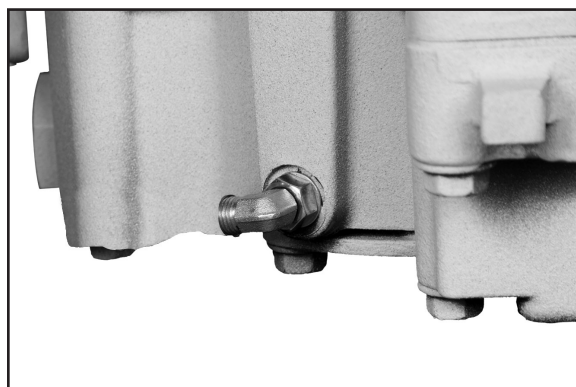

Figure 19 (Left side shown)
9. Remove the Transmission High Pressure port plug and securely install the 90° elbow fitting supplied with the PTO (**Fig. 19**).